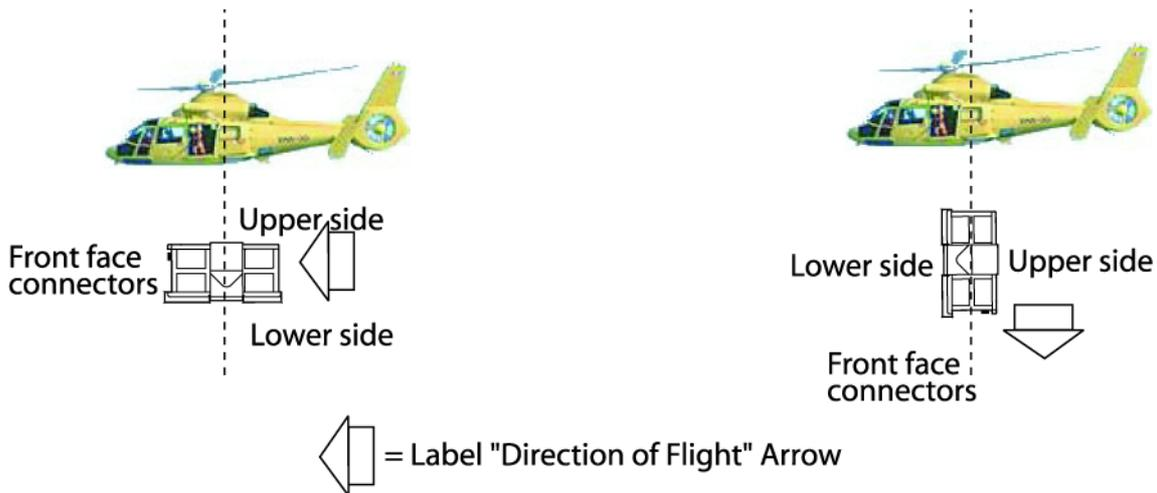
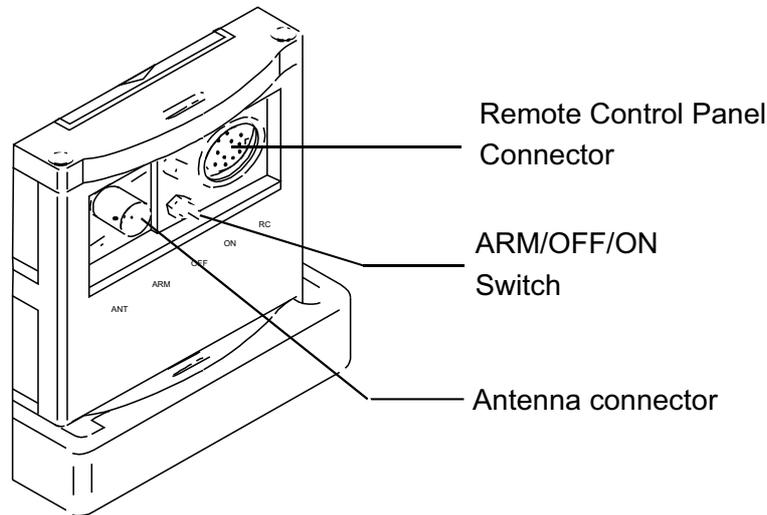

Figure 2: KANNAD 406 AP-H, installation
Figure 5: Installation, controls and connectors
- Connect the external antenna to the BNC connector (Refer to Figure 5:
Installation, controls and connectors) as shown Figure 2: ELT system description page 3.
- Connect the Remote Control Panel (or CS144) to the DIN12 connector (Refer to Figure 5: Installation, controls and connectors) as shown Figure 2: ELT system description page 3.
- Set the 3-position switch (Refer to Figure 5: Installation, controls and connectors) to ARM.
- Switch the ELT to OFF (Refer to Figure 5: Installation, controls and connectors).
- Disconnect the Remote Control Panel (or CS144) from the DIN12 connector (Refer to Figure 5: Installation, controls and connectors).
- Disconnect the outside antenna from the BNC connector (Refer to Figure 5: Installation, controls and connectors).